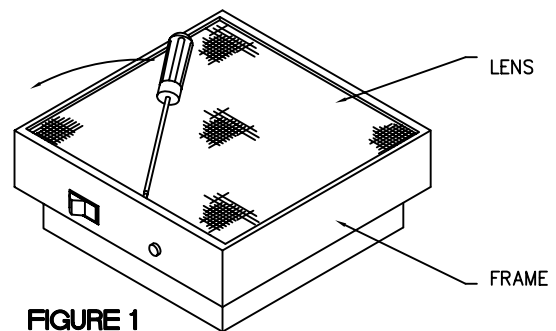

FIGURE 1
2. Remove lens from unit by inserting blade of screwdriver between lens and test switch side of frame. Lightly pry apart. (See figure 1)